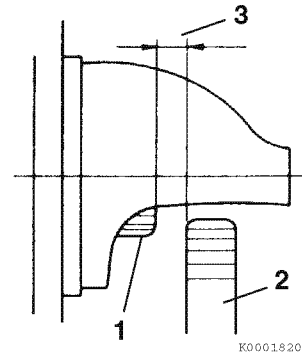

Figure 8-4
3. Check the distance between the flywheel ring gear (2, **Figure 8-4**) and starter motor pinion (1, **Figure 8-4**) in the rest position (mesh clearance) (3, **Figure 8-4**). The clearance must be 0.12 - 0.20 in. (3.0 - 5.0 mm).